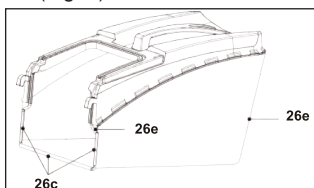

Fig. 4
1. Attach the rubber clips (26c) to the rod (26e) if they are not pre-assembled (Fig. 4).
2. The grass catcher (26) is now ready for use (Fig. 4).